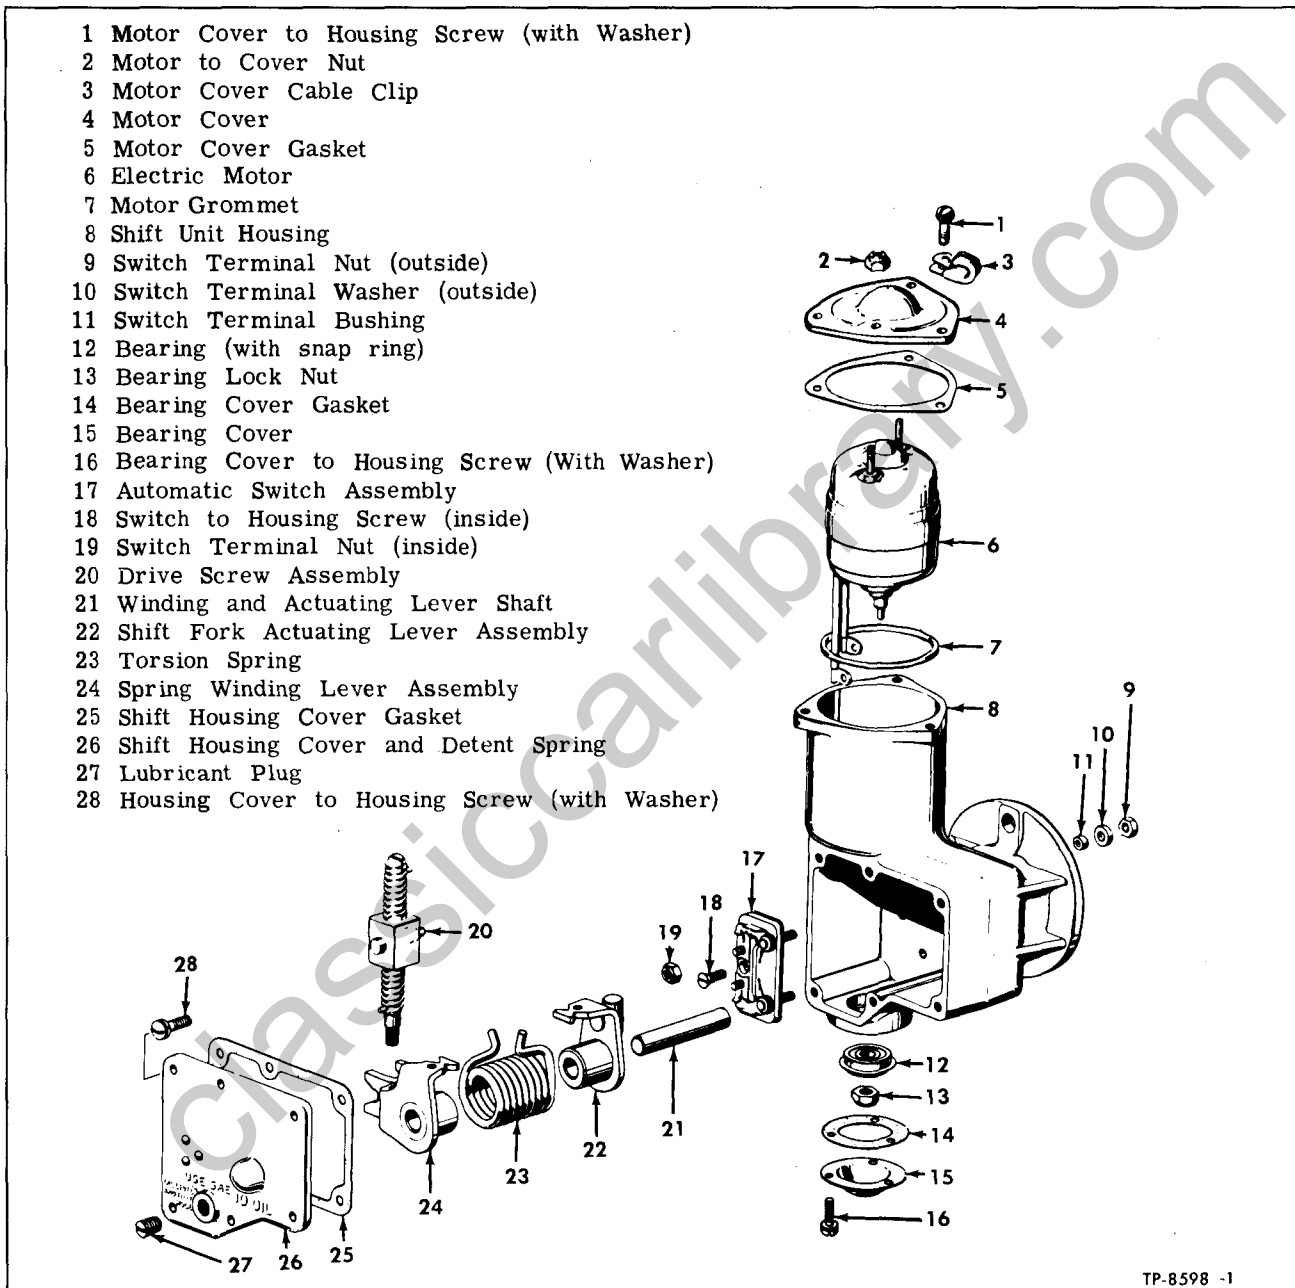

Figure 21—Electric Shift Unit Components (Eaton)
- Key numbers in text refer to figure 21.
1. Remove six screws (28) and lock washers which attach cover (26) to shift motor housing (8). Drain lubricant from housing. Remove gasket (25).
2. After removing cover (26), the drive screw (20) nut will be at either top or bottom depending
Inspect torsion spring (25, figs. 21 and 29) for breaks or wear at lever contact points. Make certain that correct replacement spring is used.
Key numbers in text refer to figure 21.